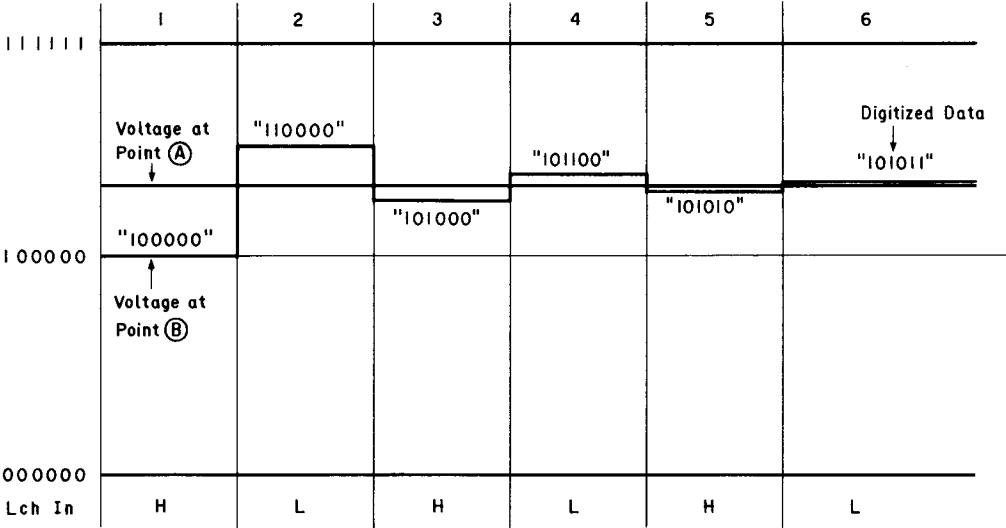

Fig. 5.18 Digitizing Example
- 2) The set initial data "100000" is converted to an equivalent analog output (voltage) by the D/A converter circuit in IC609. This output passes through the level control circuit consisting of amp. Q678, VR602 and VR603, so that it appears as the voltage at point (B). This voltage is at a level corresponding to the digital data "100000".
- 3) Fig. 5.18 and Table 5.2 present examples of compensations applied when the voltage at point (A) is higher than at point (B). The levels at point (B) shown in Fig. 5.18 are represented by the corresponding digital data values. In the first step,